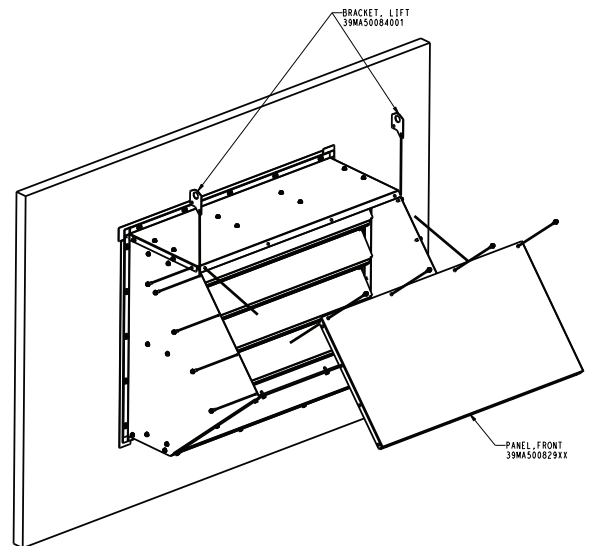

Fig. 77 — Attaching the Front Panel and Lifting Brackets
14. Attach front panel to power exhaust assembly using the 1/4 in.-14 x 5/8 in. long sheet metal screws (without neoprene washer.) Also, attach the lifting brackets to each side of the top of the assembly using the 1/4 in.-14 x 5/8 in. long sheet metal screws (without neoprene washer.) See Fig. 77.